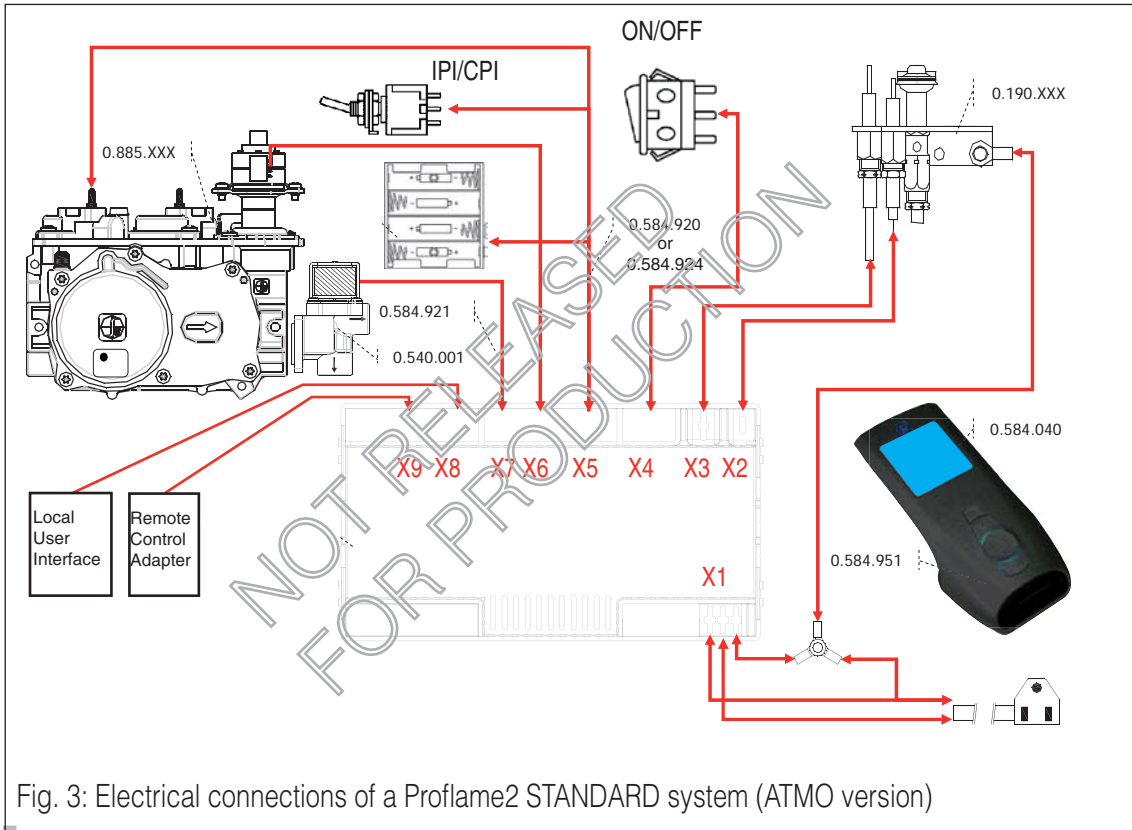

Fig. 3: Electrical connections of a Proflame2 STANDARD system (ATMO version)
7. Optional system elements: split flow control, comfort fan, dimmable lights and additional aux load, remote control adapter and/or local user interface (shown in Fig.3).